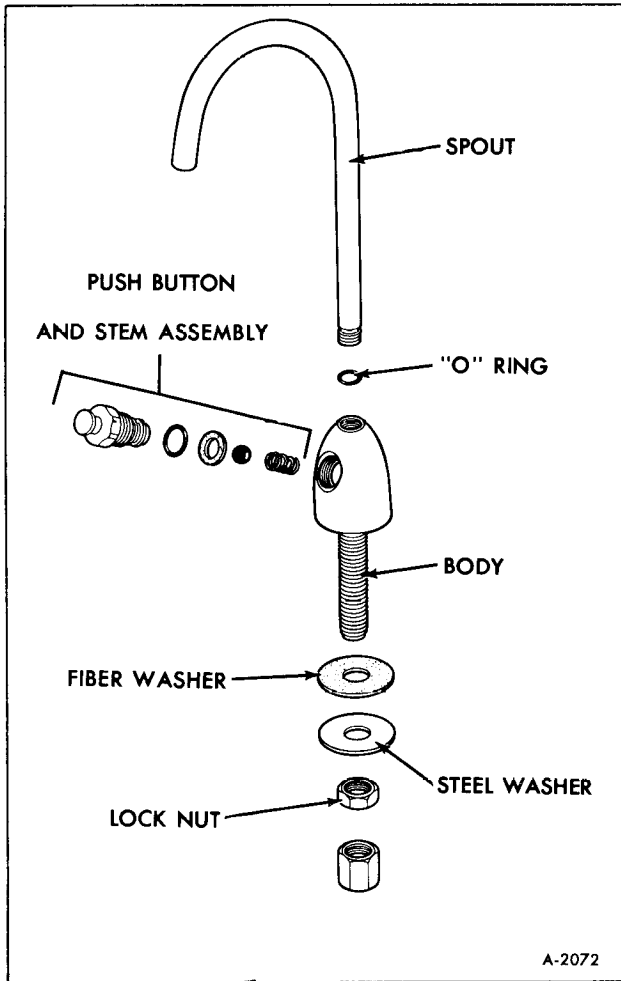

Figure 16–Water Purifier Faucet
3. Remove lock nut, steel and fiber washers (See figure 16).
### REMOVAL (FIGURE 16)
### INSTALLATION (FIGURE 16)